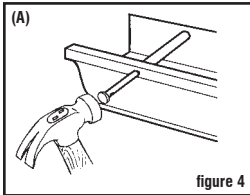

figure 4
(A) Spike and Ferrule (L) installation: With the ferrule spanning the inner gutter, drive the spike through the front gutter lip, the ferrule, the back edge of the gutter and into the fascia board (figure 4). Attach spike and ferrule on every second rafter end or every 24" for proper support.